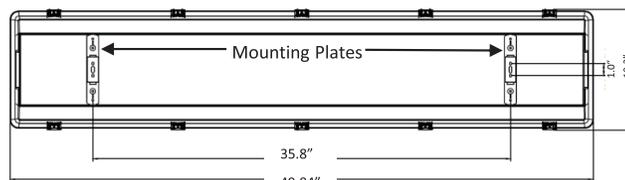

Figure 1
1. **For Surface Mounting:** Remove two mounting brackets and 4 screws from hardware bag (provided in housing) and attach the brackets to the ceiling or mounting surface. (Brackets are mounted 35.8" center to center). Align the bottoms of the mounting brackets with the centers of the mounting plates and snap the luminaire into place. (See Fig.1 and 2)